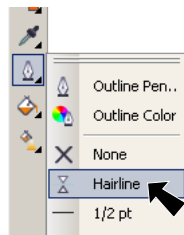

Fig. 36
Step 3. Click **Outline** in the toolbox and **Hairline** from menu, **Fig. 36**. Hairline is the cut line width on laser.